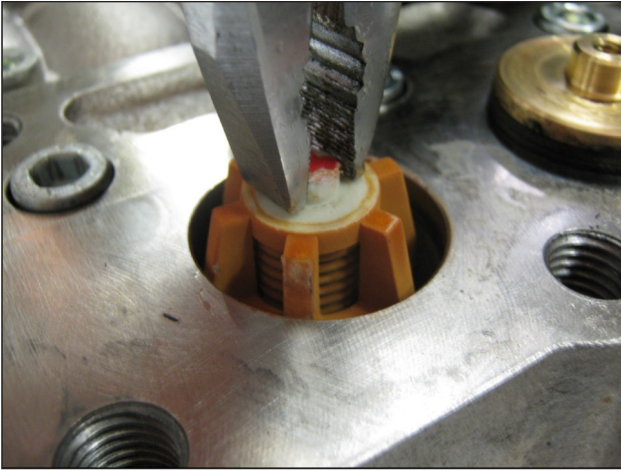

Fig. 18
- Extract the KT24-28-30-32- WK155-WK6 pump suction and outlet valve units and KT 36-40-WK8 outlet valve units using a simple tool as indicated in (Fig. 18) and a simple tool as indicated in (Fig. 18);